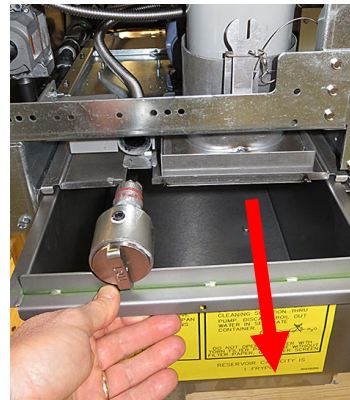

Figure 1
4. Remove the filter pan (see Figure 1).